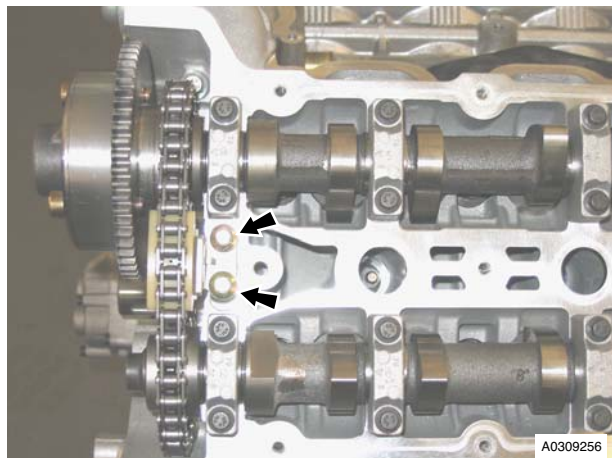

Figure 2
- Remove the two bolts that attach the secondary timing chain tensioner to the cylinder head (refer to Figure 2).